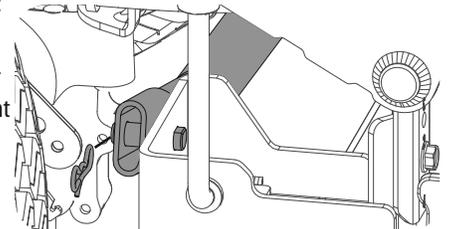

Figure 42
- a. Remove the bow-tie cotter pin on the right side of the bar connecting the bar with the bracket on the deck. See Figure 42.